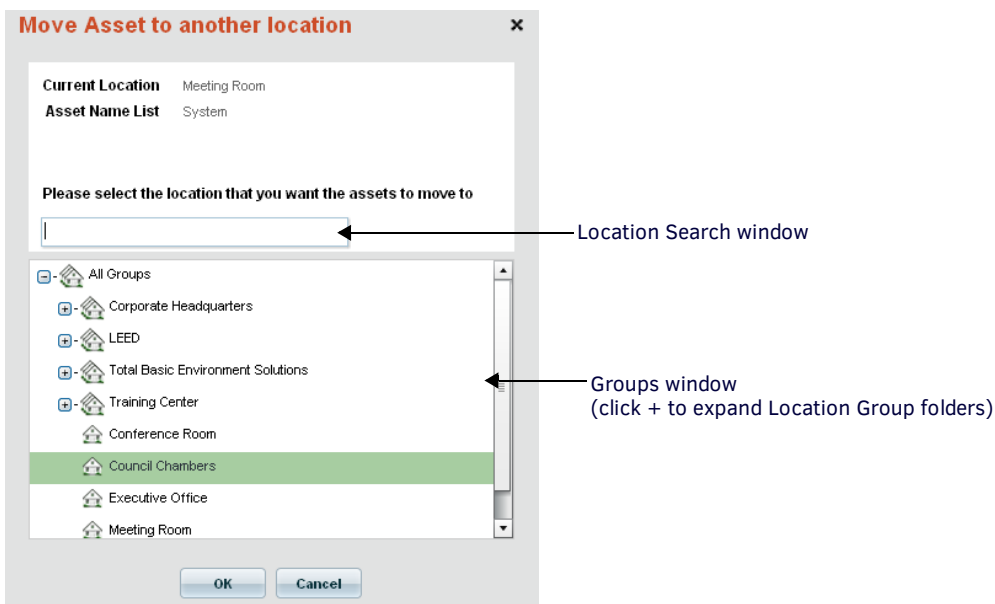

FIG. 242 Move Asset to another location dialog
3. Click the **Move Asset** button. This action invokes the *Move Asset to another location* dialog (FIG. 242):